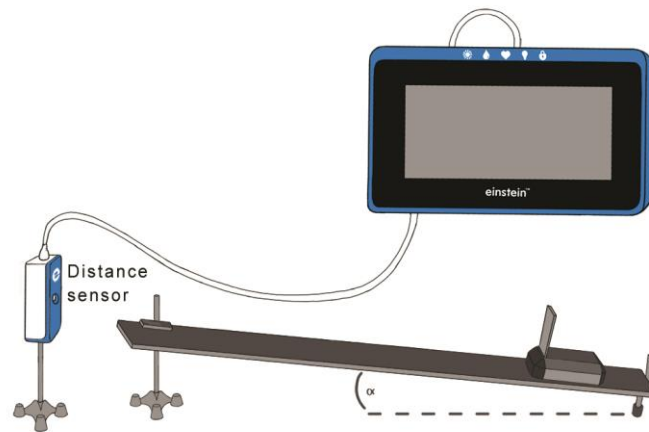

Figure 1
3. Assemble the equipment as shown in Figure 1.